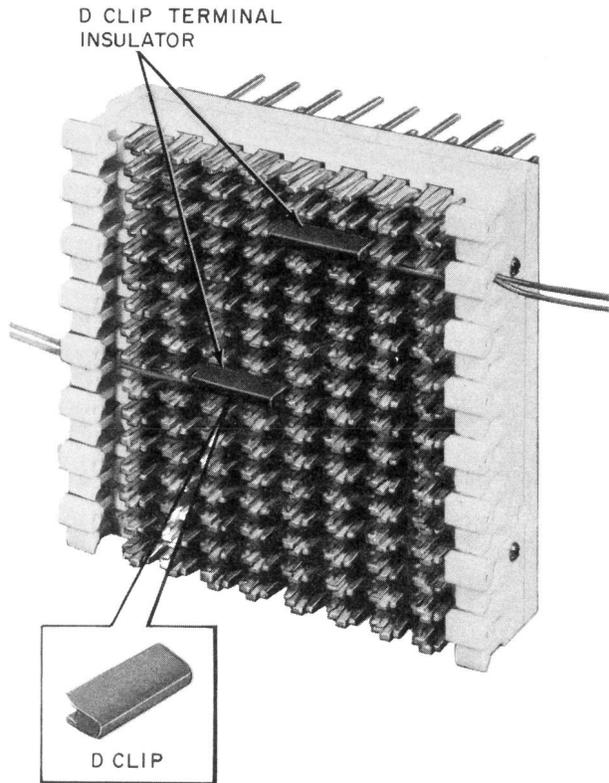

Fig. 6—Protection of Terminal Punchings—Special Service Lines—D Clip-Terminal Insulator as Used on 66H or 78B1 Connecting Block
- (2) D clip-terminal insulator for use on 66H or 78B1 connecting blocks (Fig. 6).